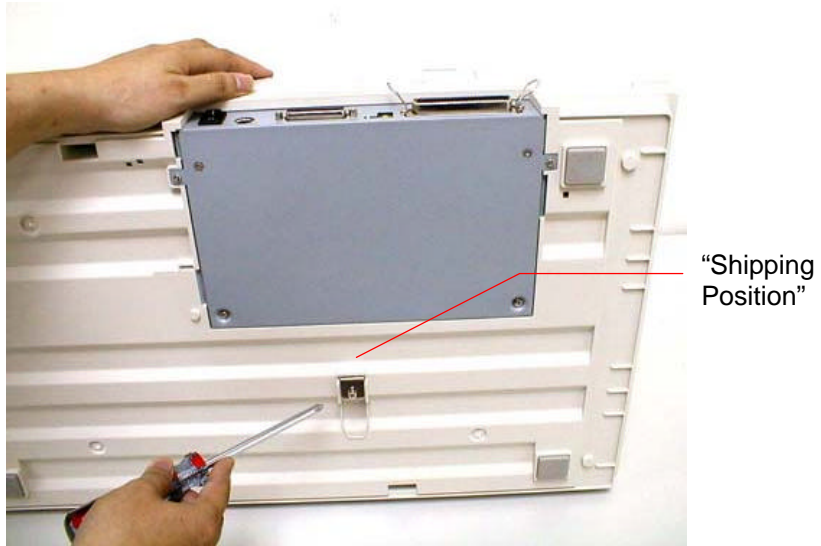

Figure 2-1 Removing the Shipping Bracket
- ii). Using a suitable screwdriver, remove the screw and pull out the shipping bracket.(See Figure 2-1)
*Note: For steps (iv) to (vi) please refer to Figure 2-1 and 2-2.*